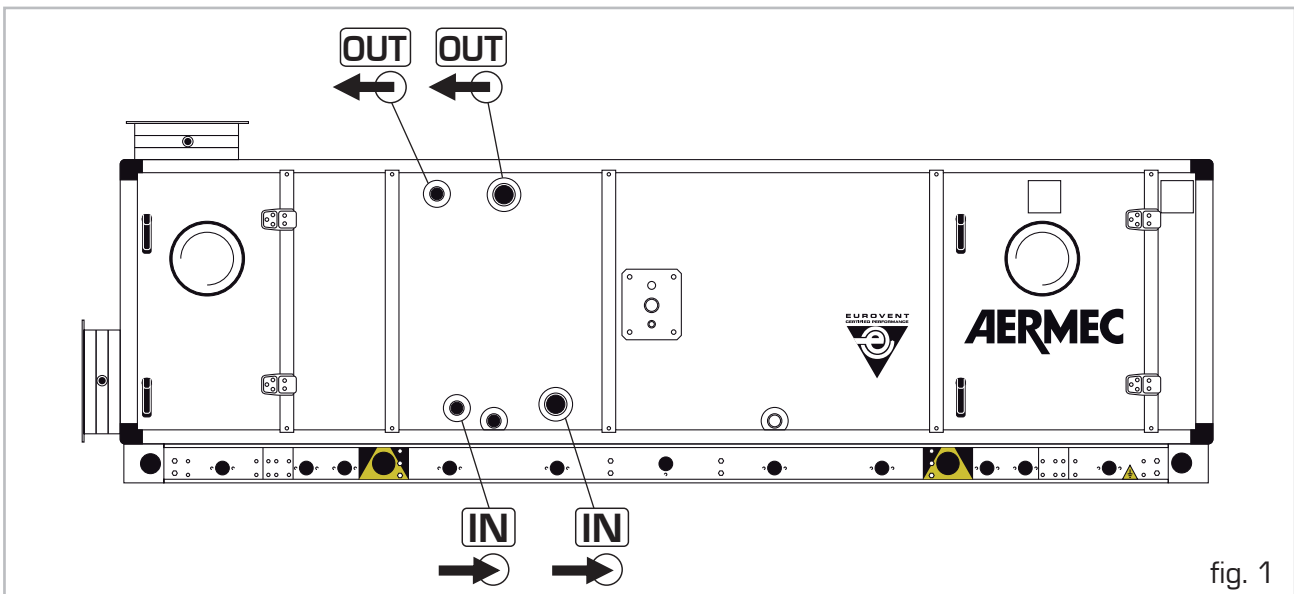
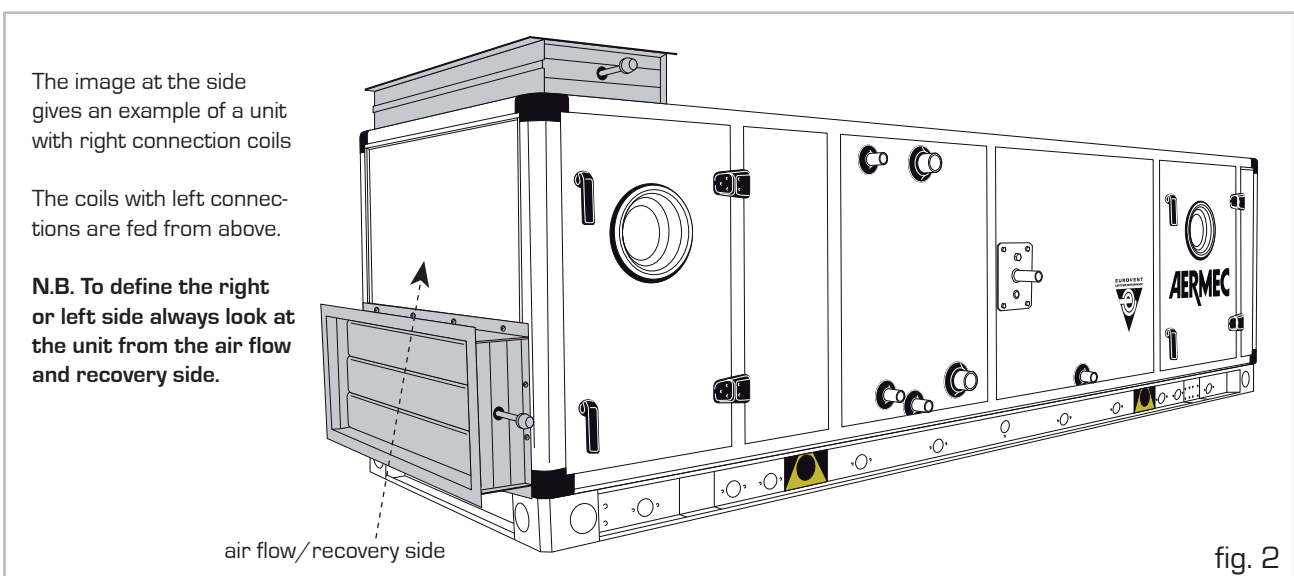

fig. 1
fig. 2
- Water inlet/outlet must be such to allow counter-current heat exchange: therefore follow the indications on the **WATER INLET** and **WATER OUTLET** plates (see fig.1 and fig. 2). Generally, the coils with right connections are fed from below, while those with left connections are fed from above.